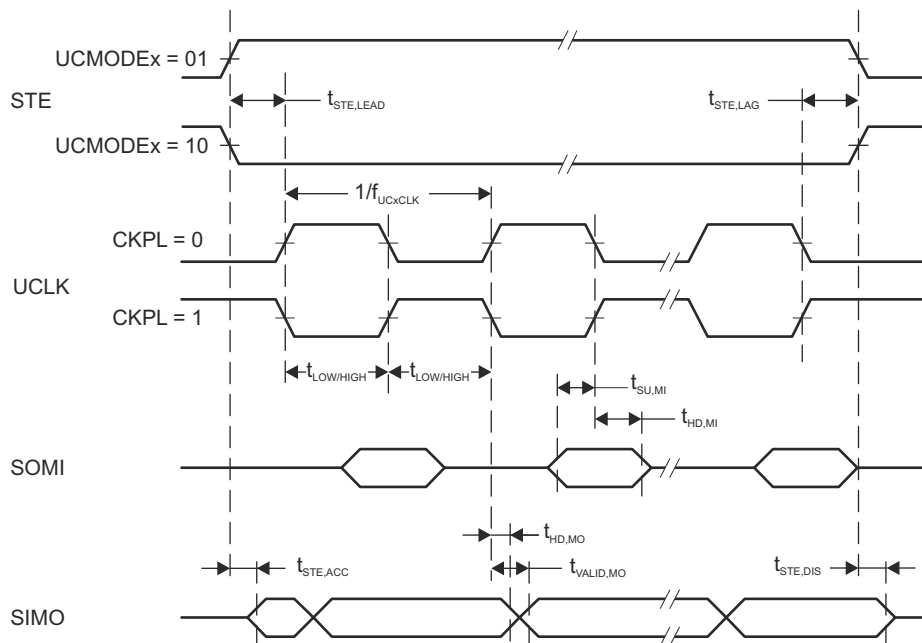

图 8-13. SPI Master Mode, CKPH = 0
- (1) f_{UCxCLK} = 1/2t_{LO/HI} with t_{LO/HI} = max(t_{VALID,MO}(eUSCI) + t_{SU,SI}(Slave), t_{SU,MI}(eUSCI) + t_{VALID,SO}(Slave)). For the slave parameters t_{SU,SI}(Slave) and t_{VALID,SO}(Slave), see the SPI parameters of the attached slave.
- (2) Specifies the time to drive the next valid data to the SIMO output after the output changing UCLK clock edge. See the timing diagrams in Figure 8-13 and Figure 8-14.
- (3) Specifies how long data on the SIMO output is valid after the output changing UCLK clock edge. Negative values indicate that the data on the SIMO output can become invalid before the output changing clock edge observed on UCLK. Refer to the timing diagrams in Figure 8-13 and Figure 8-14.